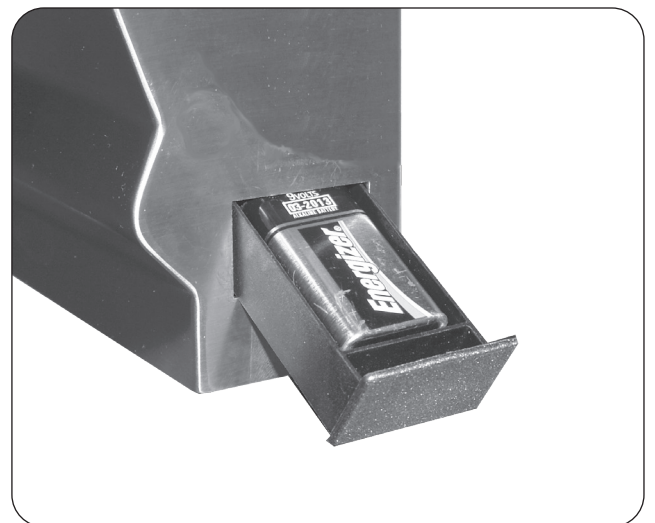

Fig. 35-3 Replace igniter battery
2. Disconnect the battery from the connector and replace it connecting the new battery and close the drawer (see Fig. 35-3).